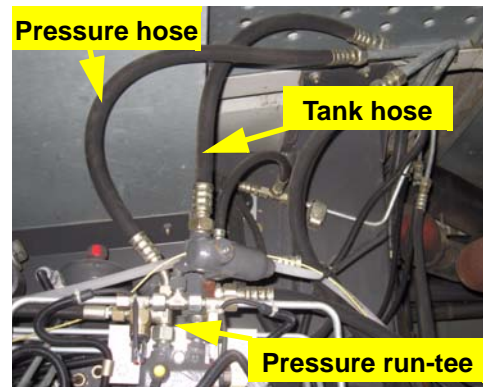

Figure 4c: Tank line fitting installed
- e. Locate the pressure hose connected to the run-tee at the circulation shut-off valve (Figure 4c).
- f. Completely remove the pressure hose and replace it with pressure hose **K**. Attach pressure hose **K** to the **P** port on the automated steering block (Figure 4c).
- g. Attach the excess flow hose **L** from the **EF** port on the automated steering block to the open run-tee connection on the circulation shut-off valve (Figure 4c).